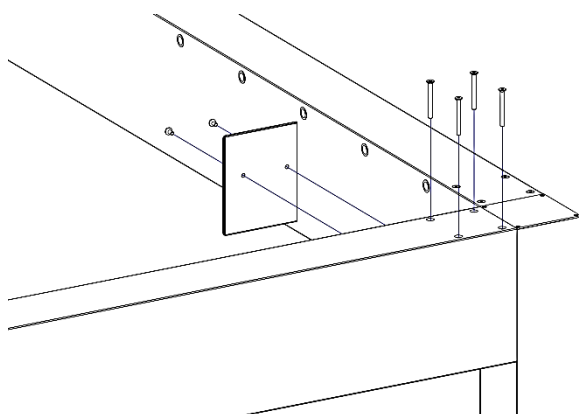

Figure 24
17. Screw the front beam plugs to the sockets in the front columns. According to Figures 24, 25, and 26.